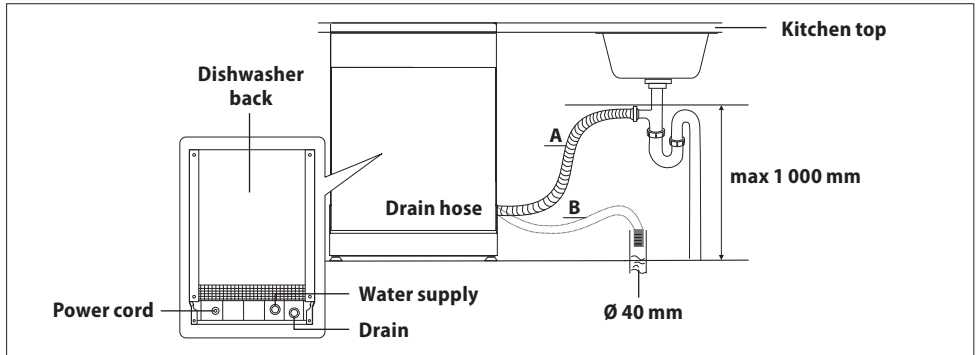

Fig. 18
5. Connect the drain hose according to Fig. 18.
- Connect the inlet hose to the tap with 3/4" thread (Fig. 18). Make sure that the inlet hose is not bent, crushed or entangled.
Connect the drain hose to the waste pipe with a minimum diameter: 40 mm (Fig. 18). Make sure the drain hose is not bent or squeezed to prevent slowing down or stopping of the water flow.
The height of the waste pipe must be less than 1,000 mm (Fig. 18) and the drain hose should not be submerged in water. Secure the drain hose properly to prevent unwanted loosening from the waste pipe.